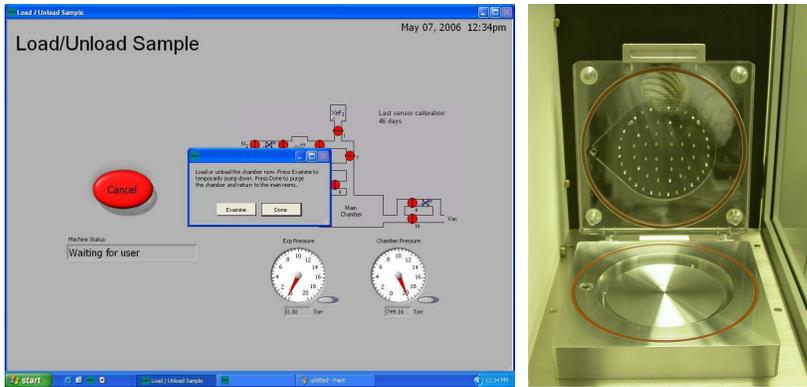

Figure 2.27
20. Open the chamber lip and take out the sample when “Waiting for user” is shown in the “Machine Status” (Figure 2.27) but don’t click any other button.